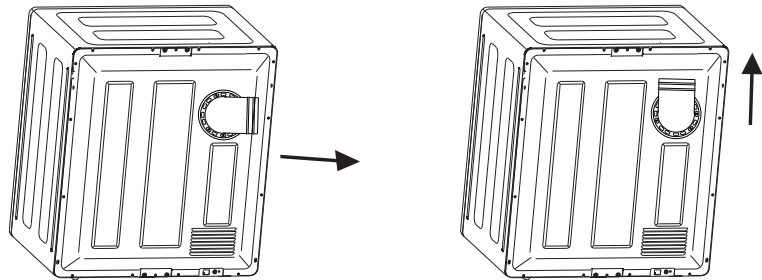

Fig.8
- To install the Exhaust Connector, push the Exhaust Connector into the Exhaust Vent at the back of the Tumble Dryer with the Exhaust Outlet in the direction required, as illustrated in (Fig.8).